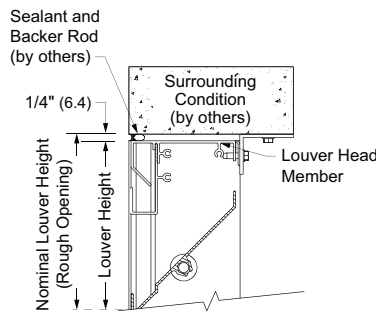

Fig. 2.2 Head
2. Place the louver section into the opening. See fig. 2.2, 2.3, 2.4.